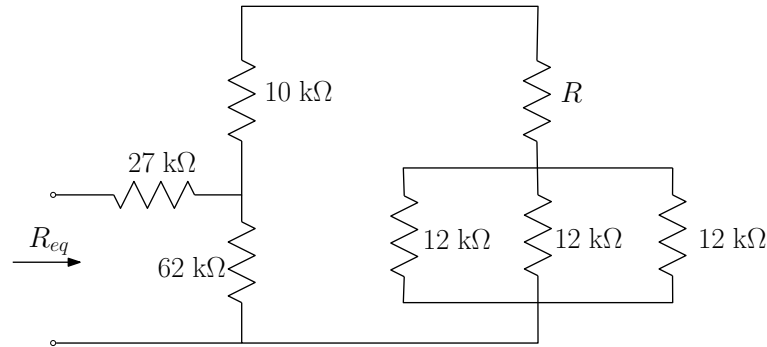

Figure 3.3: Equivalent resistance circuit.
1. The resistor network in Figure 3.3 is a rather complicated arrangement. Being able to spot parallel and series modules is the key to simplifying complex networks. Can you make the parallel and series sub-circuits stand out? Try redrawing the circuit to do so or try simply circling the sub-circuits.
- Build the circuit shown in Figure 3.3. Use a $15\text{ k}\Omega$ resistor for R . Remember to use the color-code described in Lab 2. Otherwise, the T.A. will NOT assist you in debugging your circuit!
3. In the pre-lab you found potential drops across, and current through, each resistor in Figure 3.3 for an arbitrary voltage. Do you expect these values to hold for an applied 10 V DC source? Experimentally, test your expectation for each resistor. As above, quantitatively show how well your experimental values agree with your calculated values. What sources of error exist? Quantify these error sources. It may be helpful to choose an organized method of collecting and presenting this data. **[LR 2]**